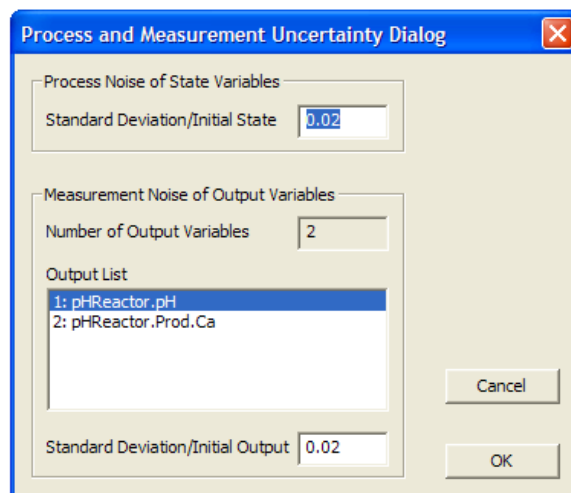

Figure 29: Process and Measurement Uncertainty Dialog Window
25. Perform the UQ analysis, by specifying the process and measurement noise levels by issuing the **UQ → Set Noise...** command. The “Process and measurement Uncertainty Dialog” window as shown in Figure 29 displays.